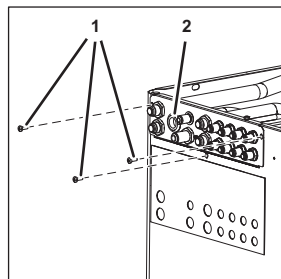

Figure 73
13. Remove the fastening bolts (Figure 73/1) from the connecting plate (Figure 73/2).
26. Attach the connecting plate (Figure 73/2) using the fastening bolts (Figure 73/1).